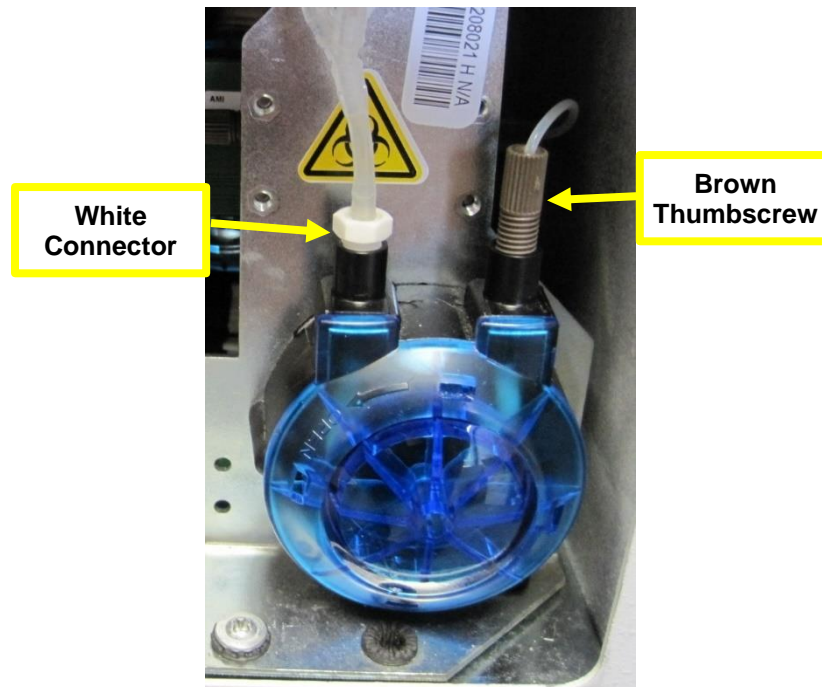

Figure 32
36. Remove the tubing from the white connector on the left side of the peristaltic pump and unscrew the brown thumbscrew on the right. Figure 32